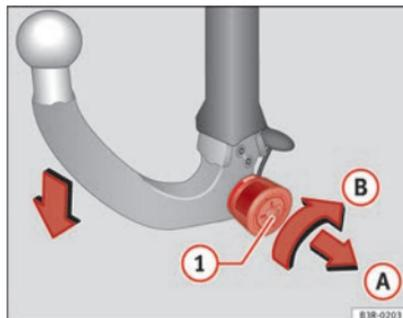
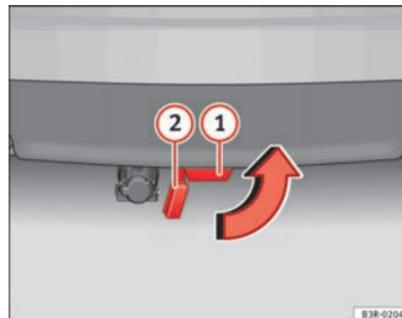

Fig. 163 Removable towing bracket: Removing the ball joint
Fig. 164 Rear bumper: fitting the cover piece
- Insert the key in the lock (1) ⇒ Fig. 163 on the knob.
- Take hold of the ball joint and pull out the knob in direction (A).
- Keep hold of the knob and turn it as far as it will go in direction (B).
- Pull the ball joint down out of the mounting fixture (1) ⇒ Fig. 164. The cover piece will cover the mounting fixture automatically (2).